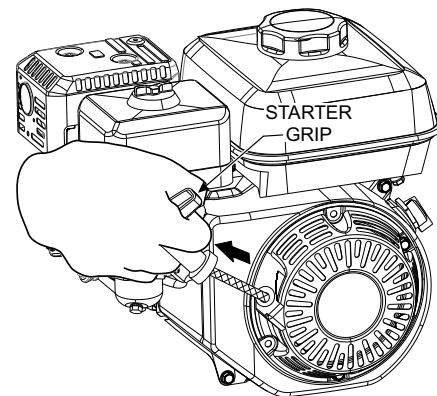

Figure 29. Starter Grip
7. Grasp the starter grip (Figure 29) and slowly pull it out. The resistance becomes the hardest at a certain position, corresponding to the compression point. Pull the starter grip briskly and smoothly for starting.